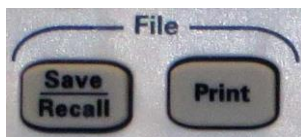

Fig. 19. Save/Recall button.
- b. Press the Save/Recall button in the File section (Fig. 19) and the Save/Recall menu will appear on the display.